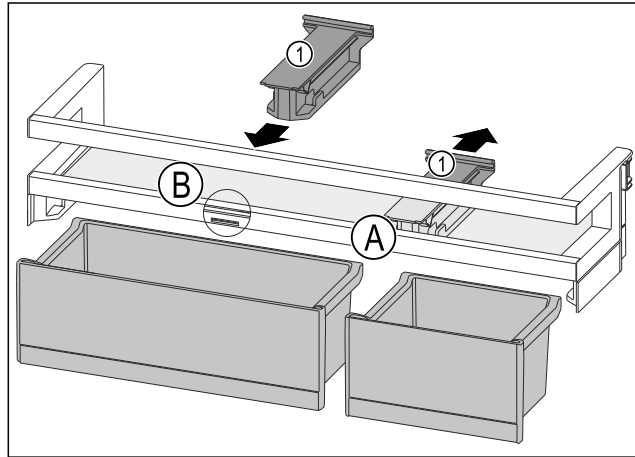

Fig. 186
- ▶ Take off the holding part Fig. 186 (1) in position Fig. 186 (A) backwards.
- ▶ Insert the holding part Fig. 186 (1) in position Fig. 186 (B).